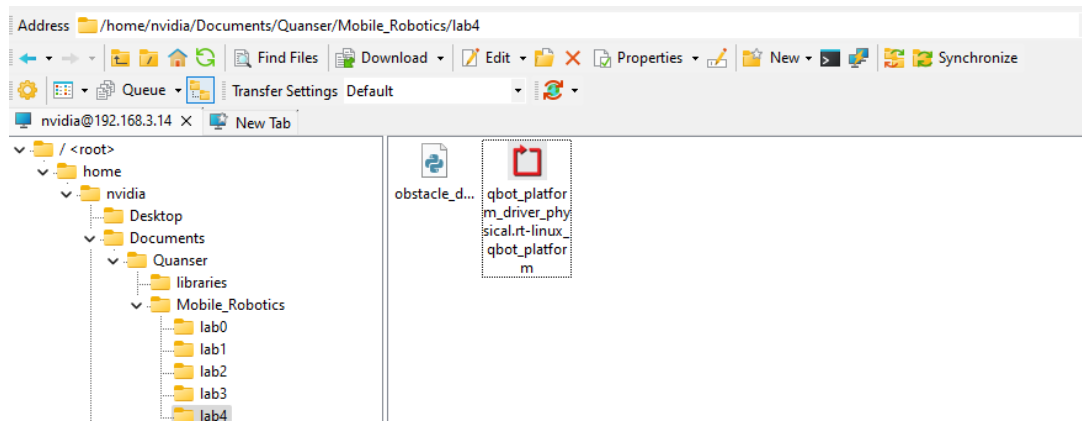

Figure 3. Correct directory for python script
- a. navigate to "~\Documents\Quanser\Warehouse\_Robotics" and create a new folder "Lab4", as shown in Figure 3. Then copy the updated obstacle\\_detection.py to "Lab4". In addition, copy the qbot\\_platform\\_driver\\_physical.rt-linux\\_qbot\\_platform over. (You can just drag the files over).